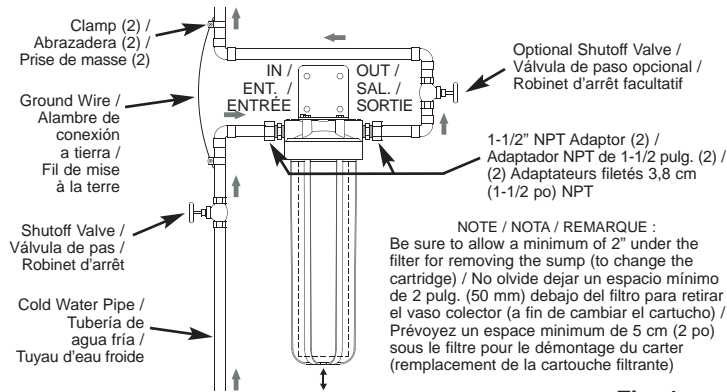
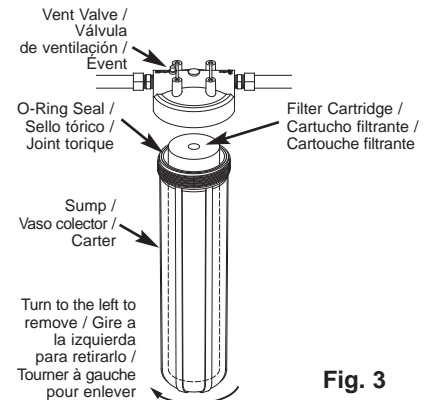

Fig. 1
Fig. 3
To filter all house water, install the filtration system on the main (COLD) supply water pipe near where it enters the house (See Figure 1).
3. Cut out a section of the COLD water supply pipe several inches long, as needed to install the filter as shown in Figure 1.
5. With the IN side of the water filter toward the incoming water, make connections, as shown in Figure 1. When tightening compression nuts, be sure to use a second wrench to hold the 1-1/2" NPT fitting while turning the nut.
The house cold water pipe is often used to ground electrical outlets in the home. Grounding protects you from electrical shock. Installing the water filter may have broken this ground. To restore, buy and install a #4 copper wire across the filter, tightly clamped at both ends, as shown in Figure 1.
1. Close the water supply shutoff valve to the filter (See Figure 1). To relieve pressure in the filter, press the vent valve on top of the filter head (See Figure 3) or open a cold water house faucet downstream of the filter.
2. Turn the sump to the left to remove from the head (See Figure 3). Be careful, as the sump is full of water. Do not lose the large o-ring seal.
8. Partially open a house faucet downstream of the filter housing. Then, slowly open the water supply shutoff valve (See Figure 1) and allow the filter housing to fill with
Pour filtrer l'eau de toute l'habitation, installez le système de filtration sur le tuyau principal d'arrivée d'eau FROIDE près de l'endroit où il entre dans la maison (voir figure 1).
1. Fermez d'abord l'arrivée d'eau du filtre (voir figure 1). Pour relâcher la pression à l'intérieur du filtre, appuyez sur l'évent situé sur le dessus de la tête du filtre (voir figure 3) ou ouvrez un robinet d'eau froide en aval du filtre.
2. Tournez le carter vers la gauche pour le séparer de la tête (voir figure 3). Prenez garde, car le carter est rempli d'eau. Ne dégagez pas le grand joint torique.